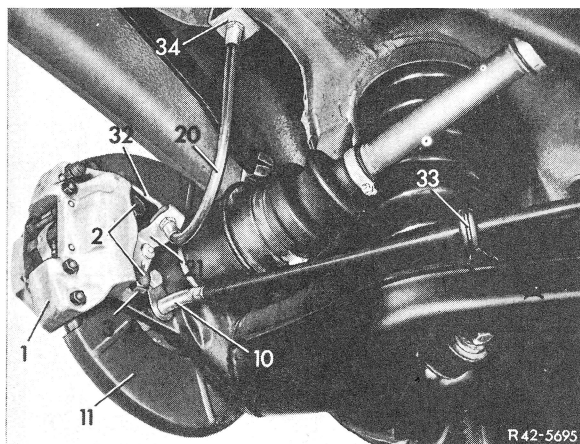

Fig. 3
2 On vehicles with diagonal swing axle with brake line layout version 1 or with starting torque compensation, loosen brake line (32) on caliper, then immediately close brake line and connection on caliper with a rubber plug (Fig. 3 and 5).
**4** Unbend lock plate (3) and unscrew hex. bolts (2). Then remove caliper (Fig. 3, 4 and 5).
**5** Position caliper against holder of wheel carrier (4). Then screw hex. bolt (2) into holder using a new lock plate (3) (Fig. 3 to 10), tighten to 90 Nm (9 kpm) and secure.
**6** Screw brake line (32) or brake hose (20) into caliper and tighten (Fig. 3, 4 and 5).